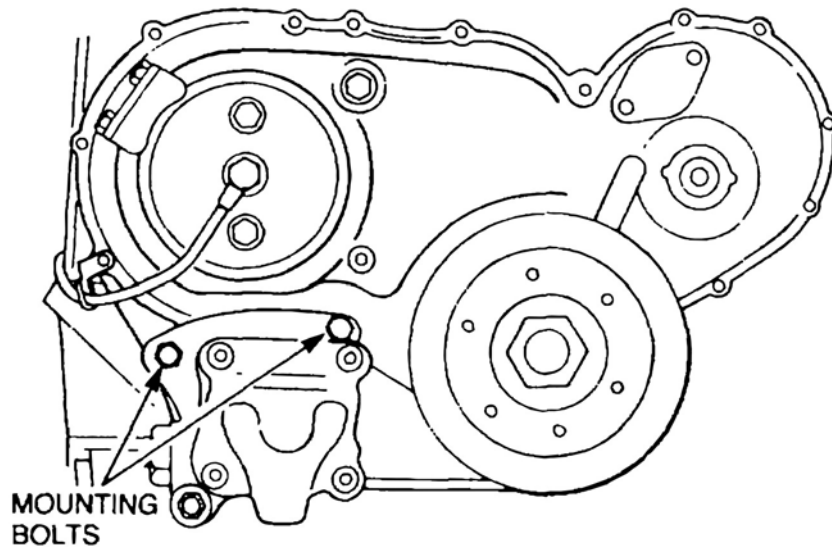

Figure 8 Power Steering Pump Removal
- g. Remove the pump (Figure 8).